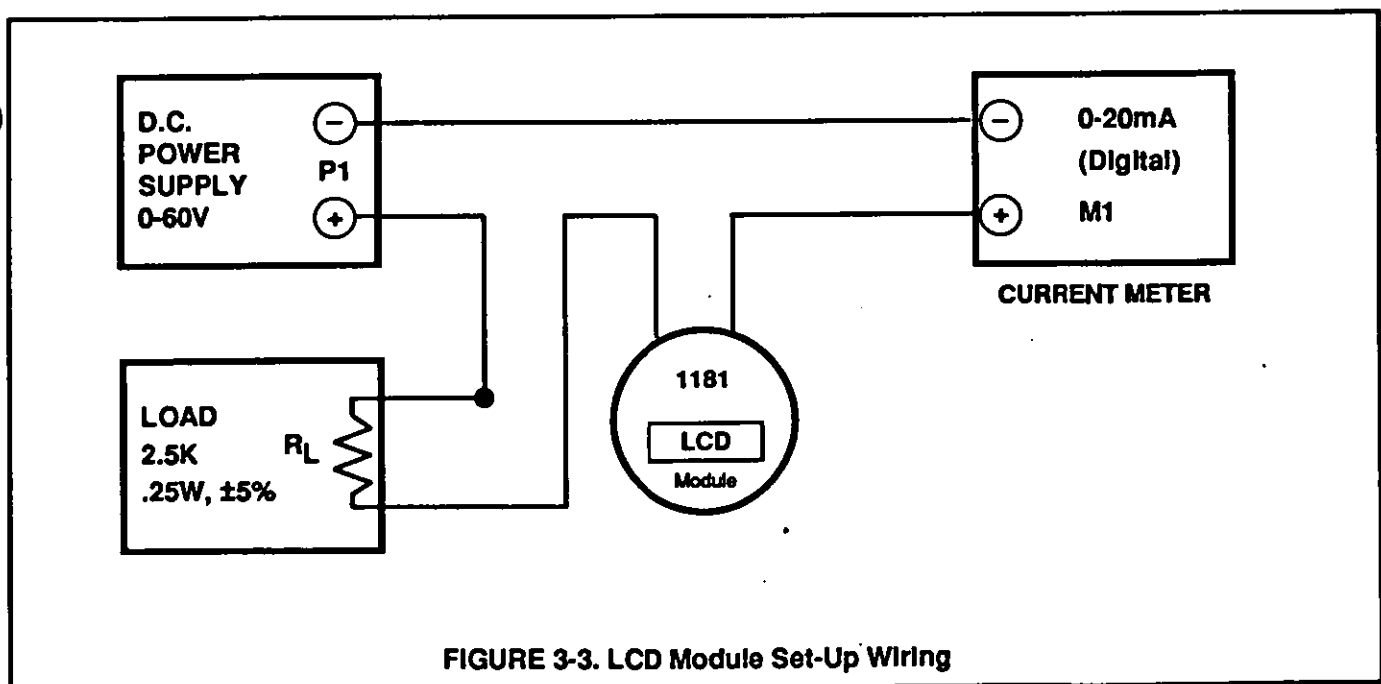

FIGURE 3-3. LCD Module Set-Up Wiring
3.7.1 Testing Equipment (see Figure 3-3).
- C. 2.5K, .25W $\pm 5\%$ resistor (RL)
3.7.2 Set-Up. The LCD module under test is connected in series with an adjustable DC power supply P1, a 2.5K ohm, 0.25 kw, $\pm 5\%$ resistor and a digital current meter M1 (see Figure 3-3).